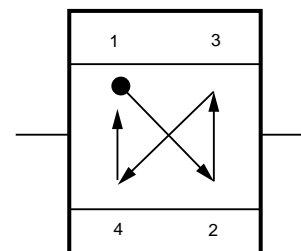

Figure 5. IMFET Tightening Sequence.
2. Gradually tighten each screw alternately to avoid warping the case (see Figure 5.).
- May introduce a fulcrum point if the recommended sequence for tightening the mounting screws is not followed carefully. (See Figure 5.)
3. Place the alloy shim under the IMFET and gradually tighten each screw alternately to avoid warping the case (see Figure 5).
Initially finger-tighten each screw. Next, tighten each screw with the crisscross pattern shown in Figure 5 to avoid warping the case.